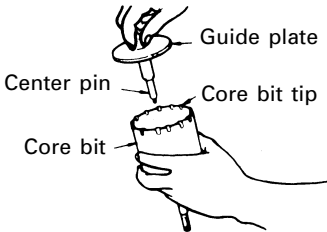

Fig. 21
- (3) Insert the center pin into the guide plate until it stops.
- (4) Engage the guide plate with the core bit, and turn the guide plate to left or right so that it does not fall even if it faces downward. (Fig. 21)